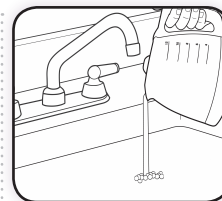

Figure 31
- Discard the solution, then wash and rinse the carafe. (Figure 31)